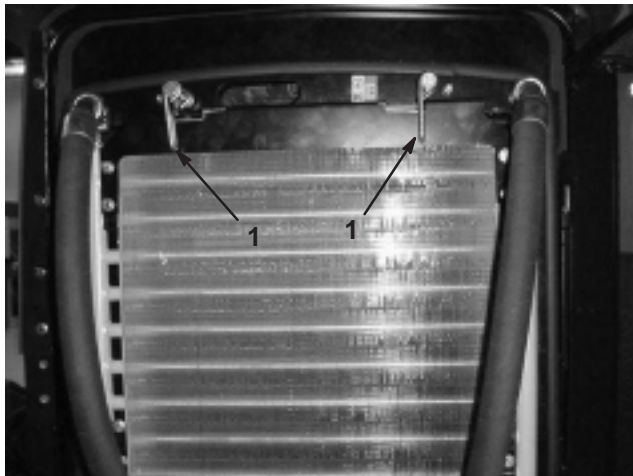

Figure 37
- Rotate latches (Fig. 37) securing the oil cooler to the frame.